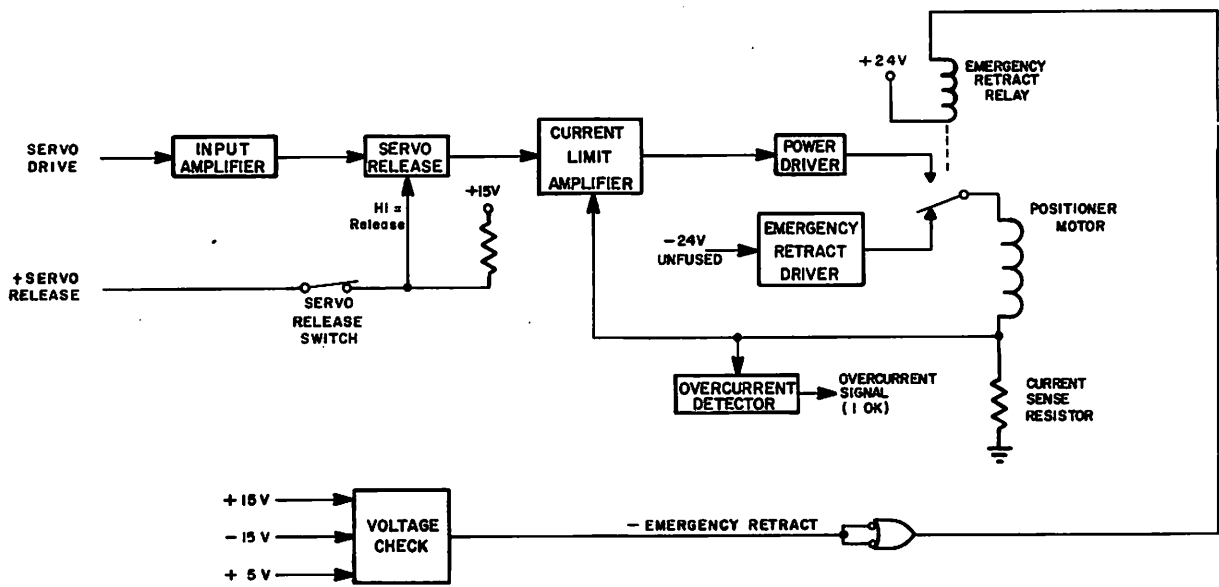

Figure 4-42. HEAD POSITIONER DRIVER
A block diagram indicating the functional divisions of the positioner motor driver is shown in Figure 4-42. These divisions are: (1) an Input Amplifier, (2) a Servo Release circuit to release the head positioner from servo control, (3) a Current Limit Amplifier to limit motor current by negative feedback, (4) a Power Driver to provide adequate drive current for the positioner motor, (5) an Emergency Retract Driver to retract and unload the heads if an out-of-tolerance voltage condition is detected, (6) a Voltage Check circuit to detect supply voltage failures, and (7) an Overcurrent Detector circuit.